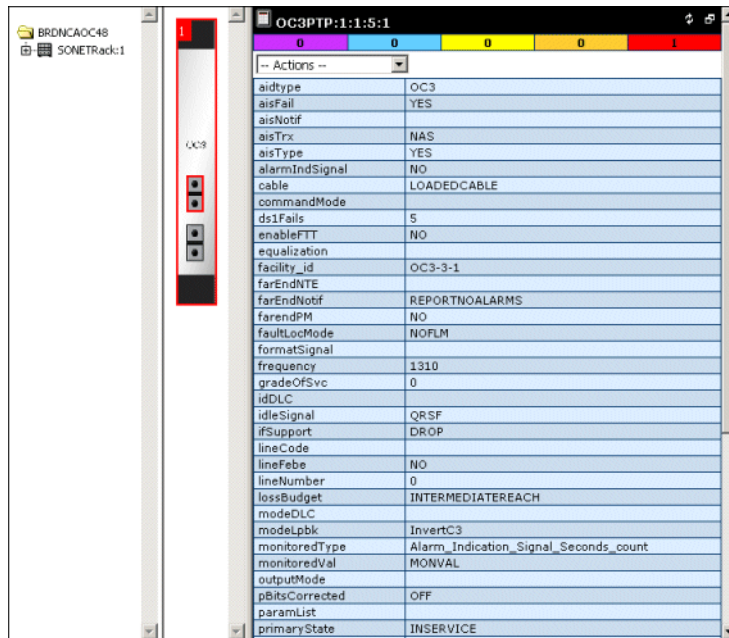

Figure 16. Network Pilot window
- The Network Pilot browser window is displayed, as shown in Figure 16. The window shows the affected entity within the context of the NE itself.